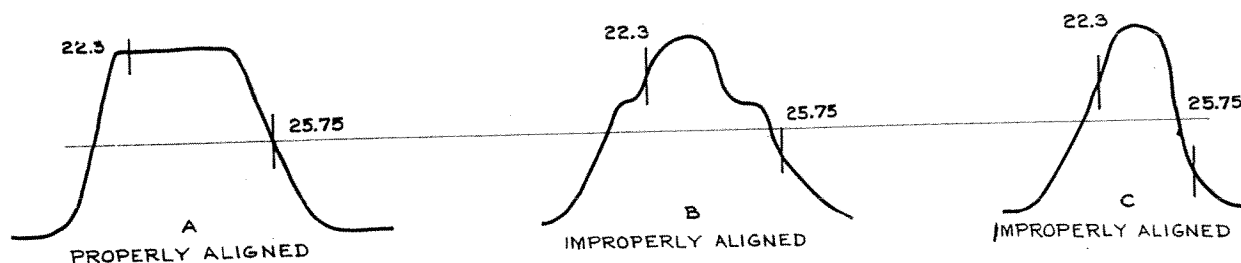

FIG. 5. PICTURE IF RESPONSE - STAGGER TUNED
26. Compare the pattern with the one shown in the manufacturer's instructions. Figure 5 shows an example of an i-f response curve. If the system has been aligned properly, it should resemble figure 5A.
27. Turn the SIGNAL switch to UNMOD. R.F. and set the logging scale of the A.M. Generator to the point for 22.3 mc. A marker should appear on the pattern as shown at the left in figure 5 A, B, and C. Adjust the SIGNAL ATTENUATORS and the F.M. ATTENUATORS for the desired balance of signal strengths. If the marker signal is too strong, the curve will be distorted and it will be difficult to measure its exact position on the pattern.